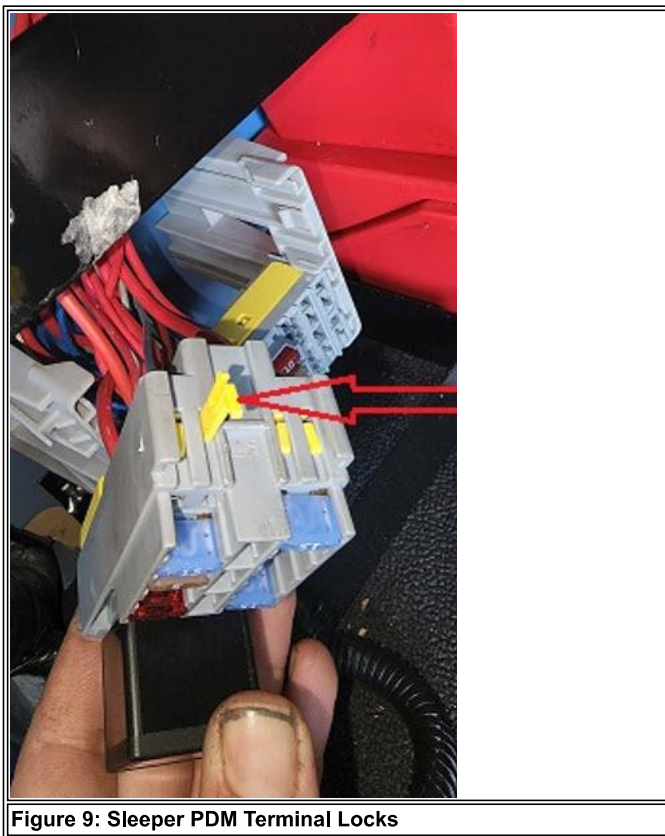

Figure 9: Sleeper PDM Terminal Locks
7.) Remove terminal lock (Figure 9)